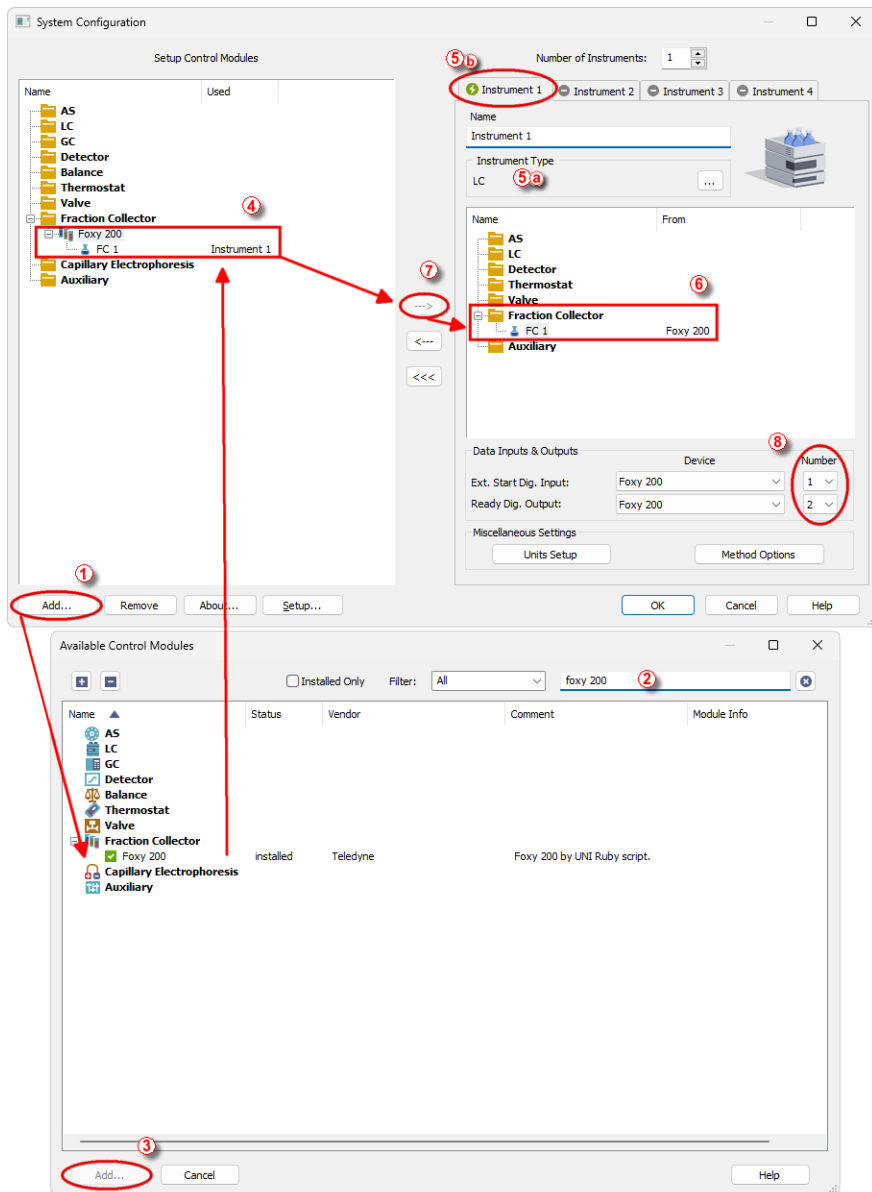

Fig. 3: How to Add Foxy 200 Control Module
- Press the *Add* button (① on 3.2 on pg. 5.) to invoke the *Available Control Modules* dialog.
- You can specify the search filter (②) to simplify the finding of the driver.
- Select the correct item and press the *Add* (③ on Fig. 3 on pg. 5.) button. Each device with already created profile should have its own item named accordingly in the *Available Control Modules* dialog.